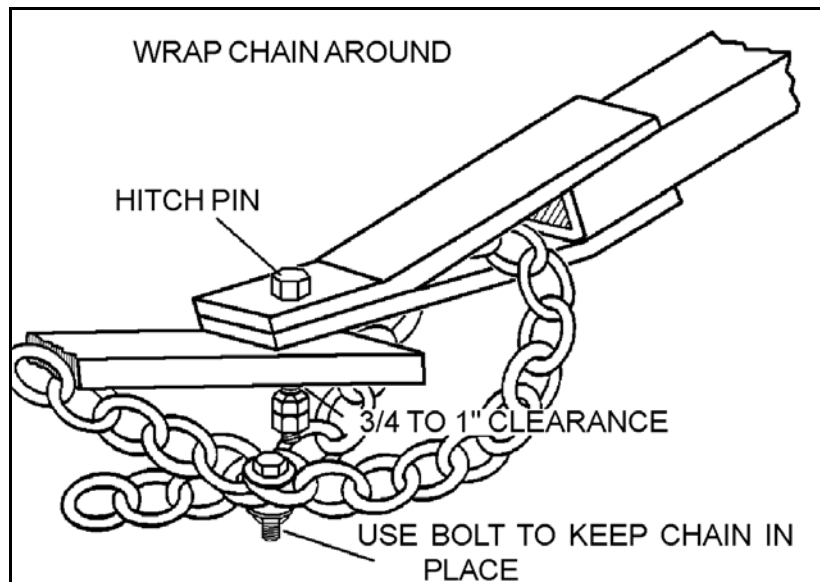

Figure 4.2
1. Connect the hitch pin and safety chain in place and secure. Place safety chain through clevis welded to auger hitch tube and bolt together before attaching to tractor (see Figure 4.2).
Important: Use a type of hitch pin that has proper clearance and will not allow auger to separate from towing vehicle. Refer to Figure 4.2.